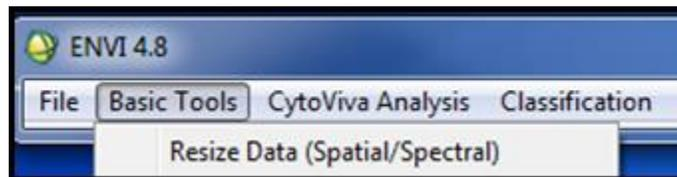

Figure 5.13a. Opening the Resize Window
- Click Resize Data (Spatial/Spectral) (Figure 5.13a).